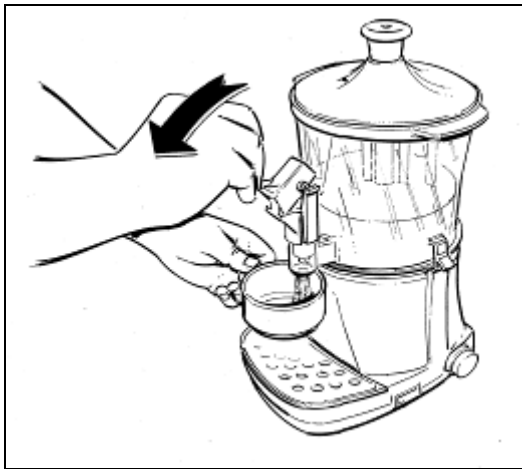

Fig. 13
- Once the desired product temperature is reached, in order to dispense product, place a cup under the tap and lower the lever as shown in figure 13.